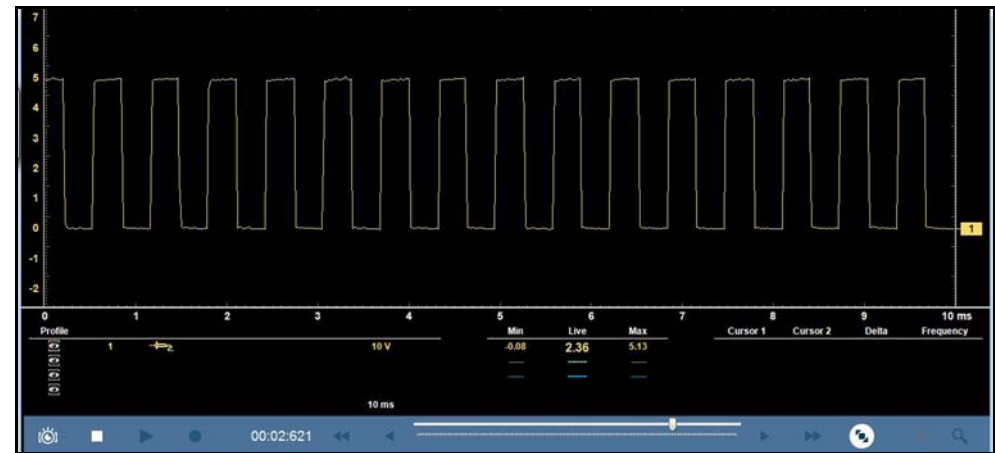

Figure 9-27
- **Expanded**—a limited set of control settings are displayed and the Min. Max. Live and Cursors panels are displayed (*Figure 9-27*)